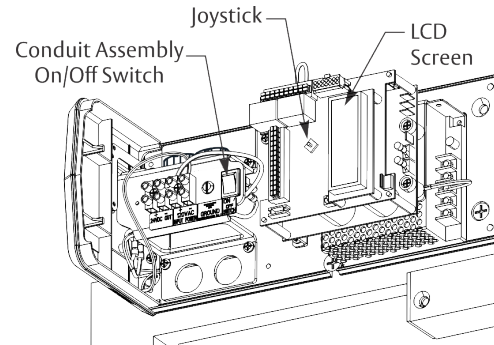

Figure 22 Union Assembly and Spacer not shown
2. Turn On/Off switch to "ON" position on conduit assembly. (Figure 22)
- To scroll through menu items, push up or down on joystick. (Figure 22)